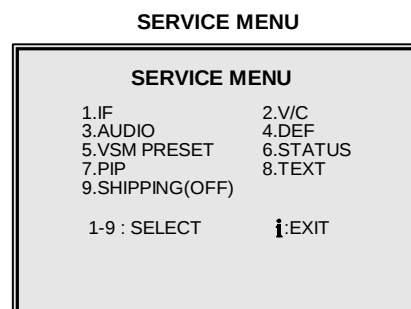

Fig.1
(1) Power off Switch off the power and disconnect the power plug from the wall outlet.
(2) Replace the memory IC Be sure to use memory ICs written with the initial data values.
(3) Power on Connect the power plug into the wall outlet and switch the power on.
(4) Check and set SYSTEM CONSTANT SET ● It must not adjust without adjustment signals. 1) Press the INFORMATION key and the MUTING key of the REMOTE CONTROL UNIT simultaneously. 2) The SERVICE MENU screen of Fig. 1 will be displayed. 3) While the SERVICE MENU is displayed, again press the INFORMATION key and MUTING key simultaneously, and the SYSTEM CONSTANT SET screen of Fig. 2 will be displayed. 4) Check the setting values of the SYSTEM CONSTANT SET of Table 1. If the value is different, select the setting item with the FUNCTION UP/DOWN key, and set the correct value with the FUNCTION LEFT/RIGHT key. 5) Press the OK key to memorize the setting value. 6) Press the INFORMATION key twice, and return to the normal screen.
(5) Receive channel setting Refer to the OPERATING INSTRUCTIONS, and set the receive channels as described.
(6) User settings Check the user setting items according to Table 2. Where these do not agree, refer to the OPERATING INSTRUCTIONS.
(7) SERVICE MENU setting Verify what to set in the SERVICE MENU, and set whatever is necessary. For setting, refer to the SERVICE ADJUSTMENTS.